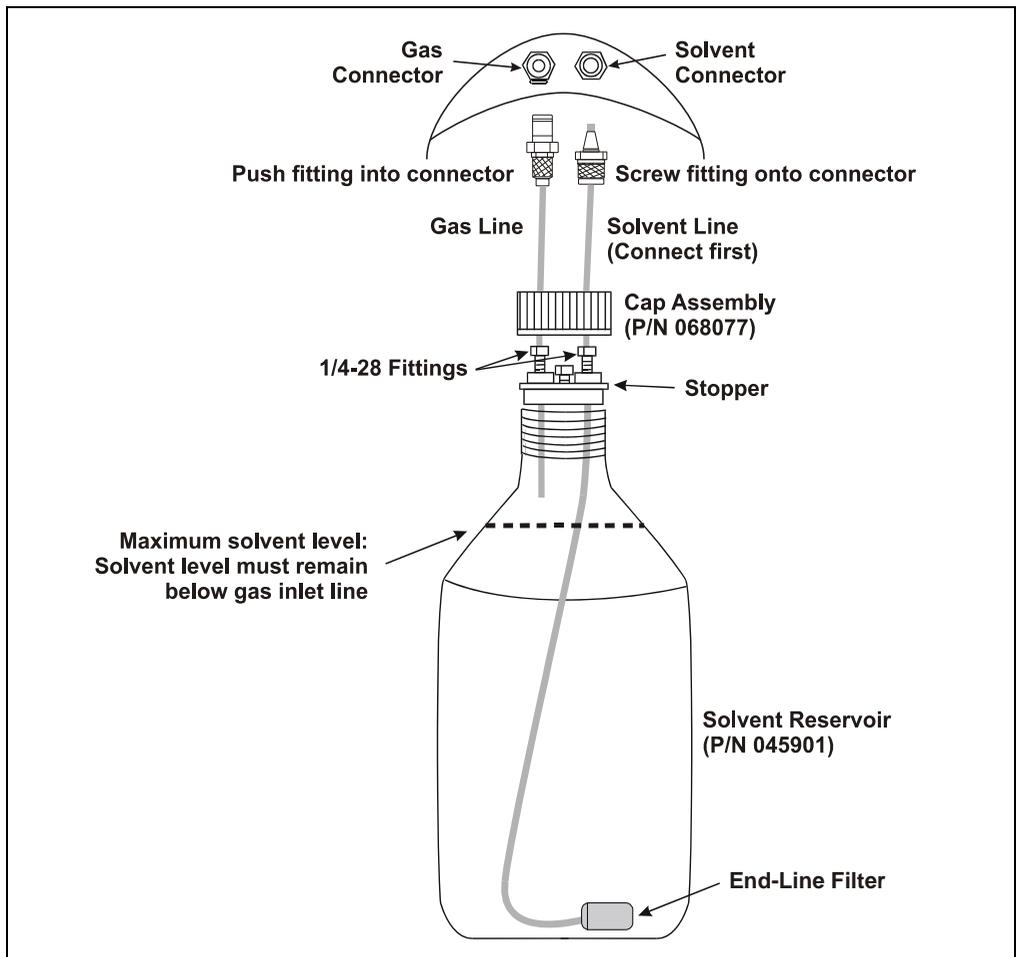

Figure B-8. Solvent Reservoir Connections
Never fill the solvent reservoir or disconnect the tubing connections to the solvent and gas connectors (see Figure B-8) during a run or rinse cycle. At these times, the solvent reservoir is pressurized. If you remove the reservoir cap when the solvent reservoir is pressurized, the Dionex ASE 350 may not operate to specification.
1. Fill the solvent reservoir (P/N 045901) with prepared solvent (for example, acetone) to the level indicated in Figure B-8.
2. Insert the solvent line extending from the underside of the reservoir cap assembly (P/N 068077) into the reservoir (see Figure B-8). Make sure the end-line filter rests on the bottom of the reservoir.